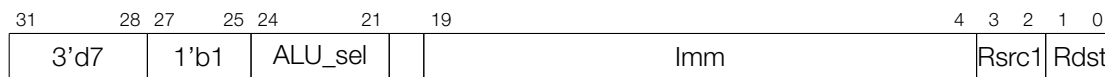

Figure 142: Instruction Type — ALU for Operations with Immediate Value
When bits [27:25] of the instruction in Figure 142 are set to 1'b1, ALU performs operations, using register R[0-3] and the immediate value stored in [19:4]. The types of operations depend on the setting of the instruction's bits [24:21] presented in Table 126.
**Operand**    **Description** - see Figure 142